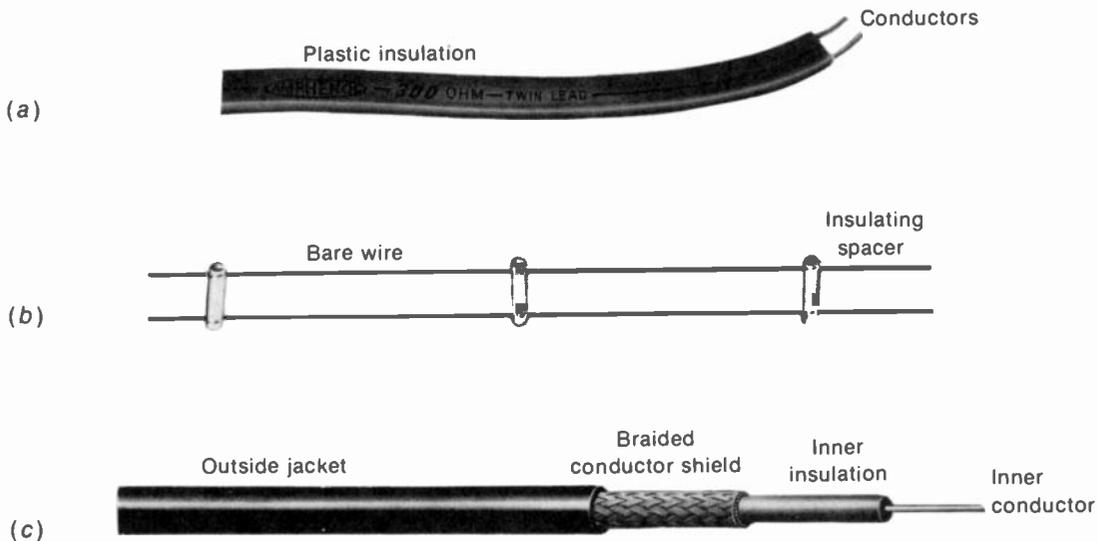

FIGURE 25-25 TRANSMISSION LINES. (a) FLAT TWIN LEAD; (b) OPEN-WIRE LINE; (c) COAXIAL CABLE.
The main types are shown in Fig. 25-25. The transmission line is just a conductor that has the function of delivering the antenna signal to the receiver. Three important requirements of the line are: (1) minimum losses, (2) no reflections of signal on the line, and (3) no stray pickup of signal by the line itself. To prevent signal pickup, the line should be balanced or shielded or both.